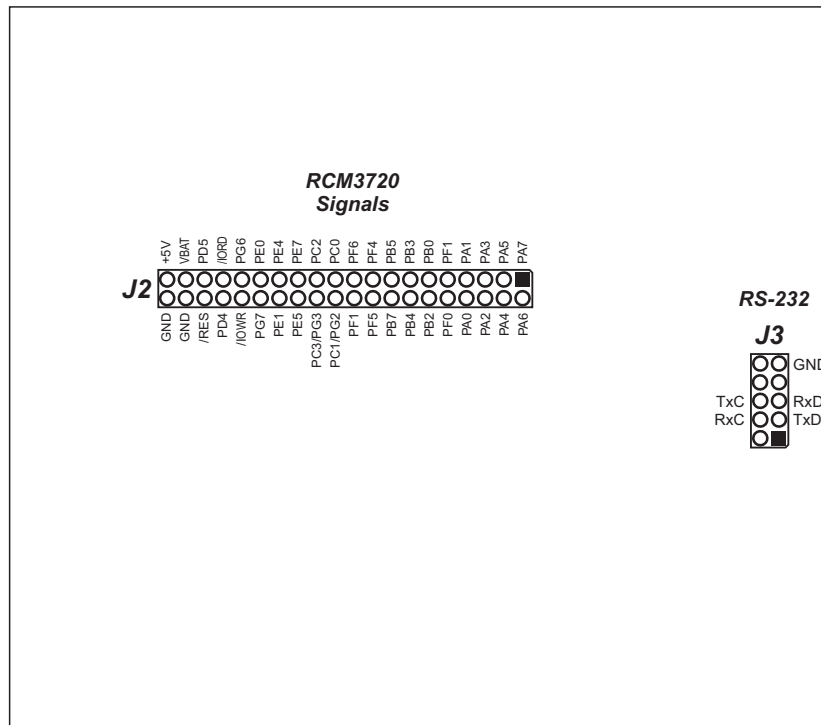

Figure B-14. RCM3720 Prototyping Board Pinout
- **Module Extension Headers**—The complete pin set of the RCM3720 module is duplicated at header J2. Developers can solder wires directly into the appropriate holes, or, for more flexible development, a 2×20 header strip with a 0.1" pitch can be soldered into place. See Figure B-14 for the header pinouts.
Figure B-14 shows the RCM3720 Prototyping Board pinouts.